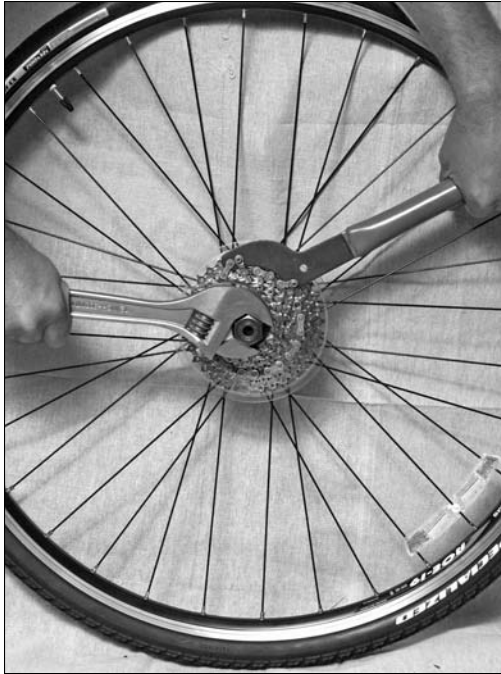

Figure 11-4:
- 7. Holding the chain-whip tool in one hand and the adjustable wrench in the other (as shown in Figure 11-4), push down on the adjustable wrench.**